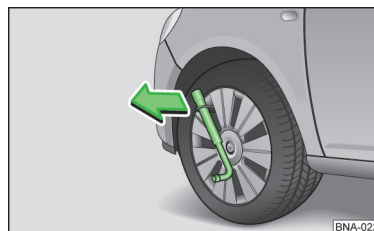

Fig. 76
- › Push the wheel wrench through the wire clamp » fig. 76 and lever off the wheel trim in the direction illustrated.